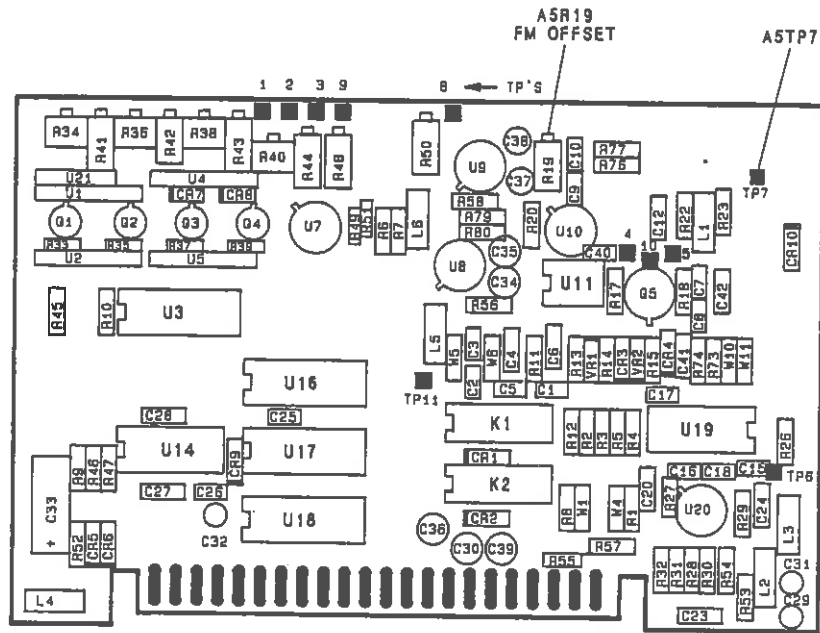

Figure 5-23. FM Driver Adjustment Locations
4. Connect the DVM between the A5 board connector pin 21 and A5TP7 (ground) (see figure 5-23). Adjust A5R19, FM OFFSET, for 0 V dc  $\pm$  0.1 mV dc.